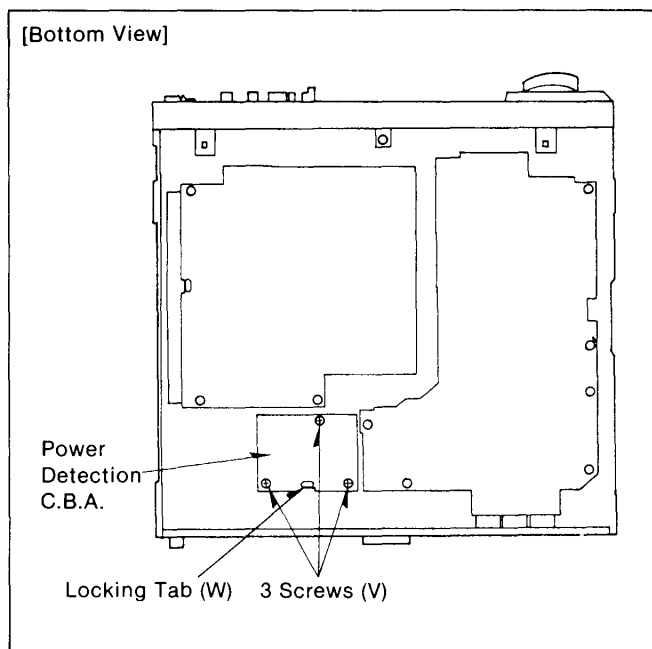

Figure D23
1. Unscrew the 3 screws (V) on the Power Detection C.B.A. (Figure D23).
2. Unlock a locking tab (W) on the Power Detection C.B.A. and lift the Power Detection C.B.A. (Figure D23).